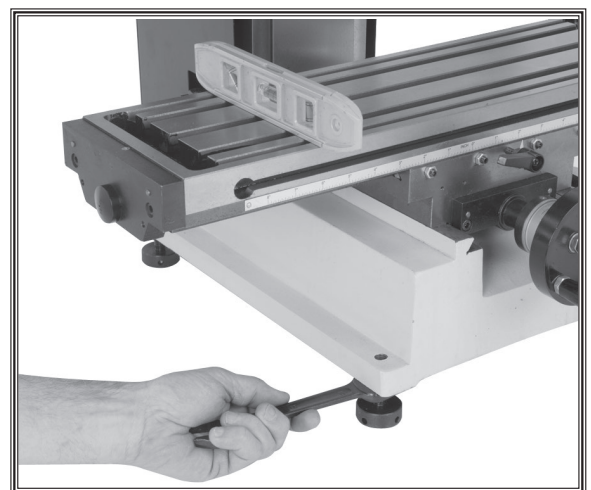

Figure 7. Leveling the mill.
4. Loosen the hex nut(s), as shown in Figure 7, and turn the feet until the mill is level side-to-side and front-to-back.